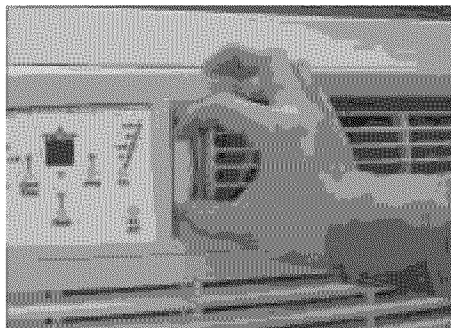

Figure 2 (FRESH AIR)
2. Draw fresh air into the room - Vent Open (see Fig. 2)